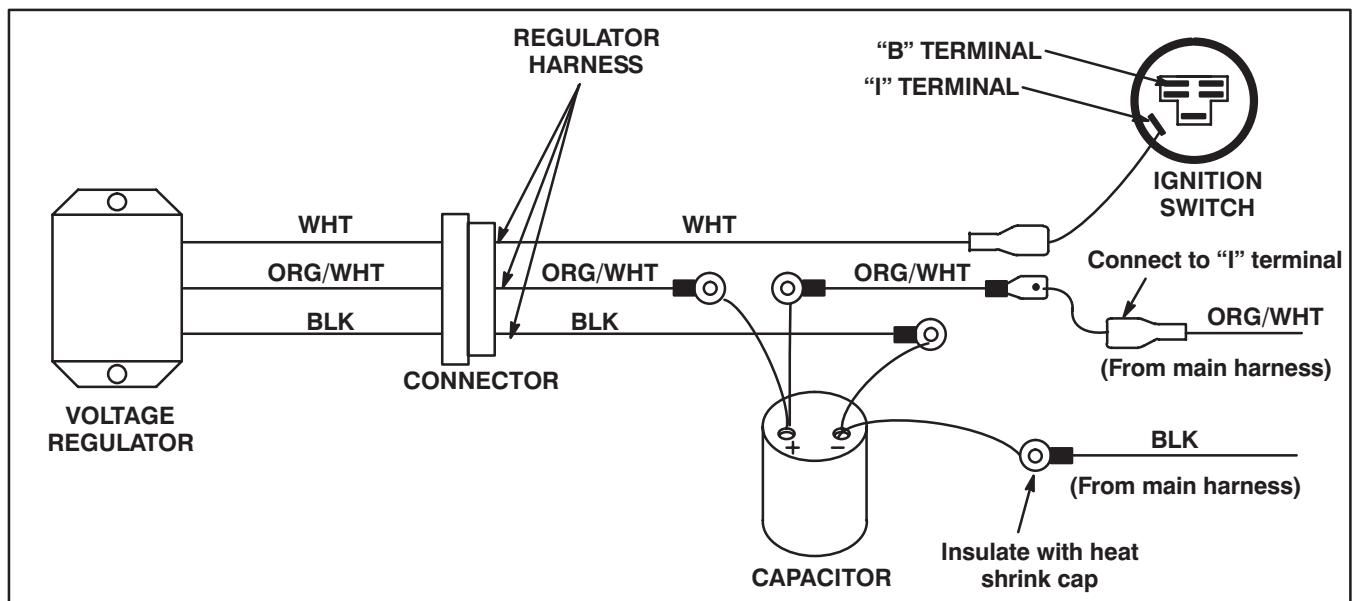

Figure 1
A. Remove voltage regulator, regulator harness and capacitor from main wire harness (Fig. 1). Components are located underneath cup holder on control panel.